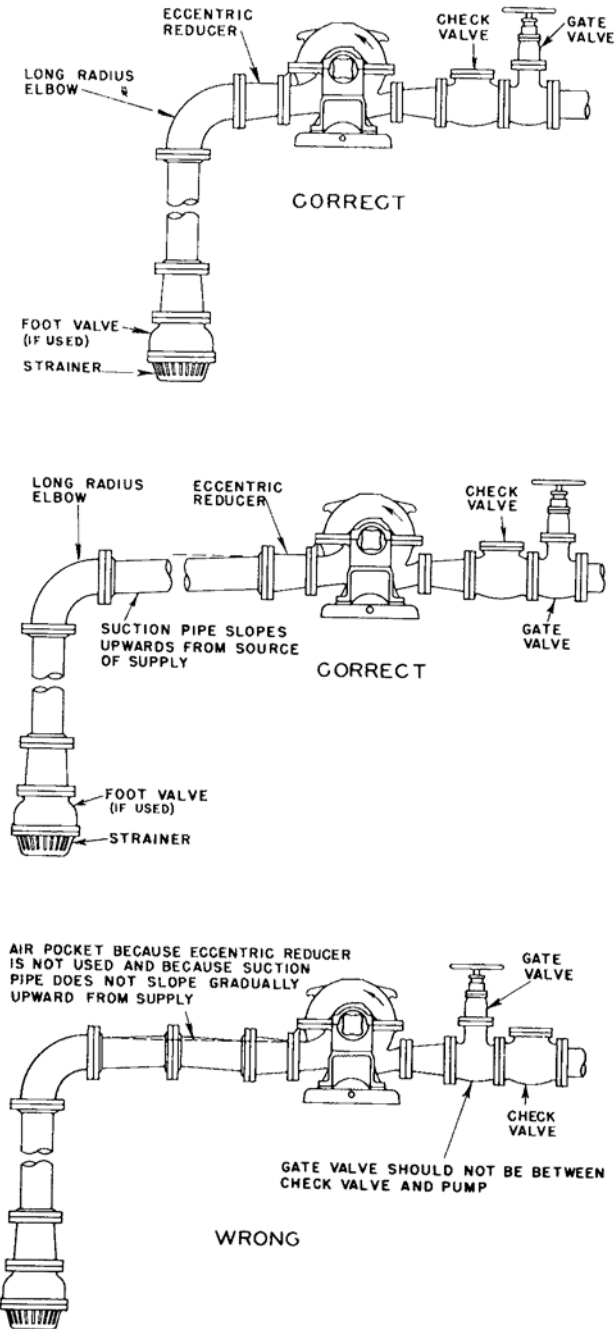

Figure 5:
- Keep suction pipe free from air pockets. See Figure 5: on page 14.
1. A gate valve and a check valve should be installed in the discharge line. The check valve should be located between the gate valve and pump to permit inspection of the check valve. The gate valve is required for priming, regulation of flow capacity and for inspection and maintenance of the pump. See Figure 5: on page 14.